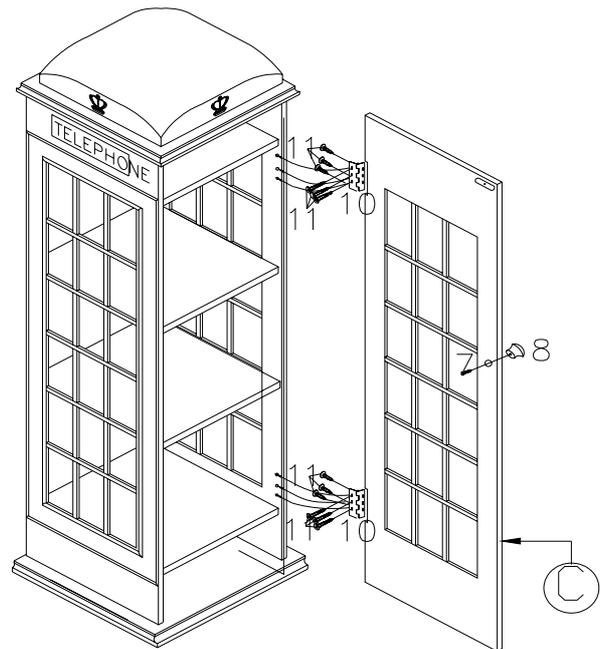

FIGURE 4
8. INSERT MACHINE SCREW (7) THROUGH PREDRILLED HOLES ON BACK OF DOOR PANEL (C) AND TIGHTEN INTO THREADED HOLE OF WOOD KNOB (8). INSERT FLAT HEAD WOOD SCREWS (11) THROUGH PREDRILLED HOLES OF HINGES (10) AND TIGHTEN INTO CORRESPONDING HOLES ON RIGHT SIDE PANEL (B) AND DOOR PANEL (C). AS FIGURE 4 SHOWN.